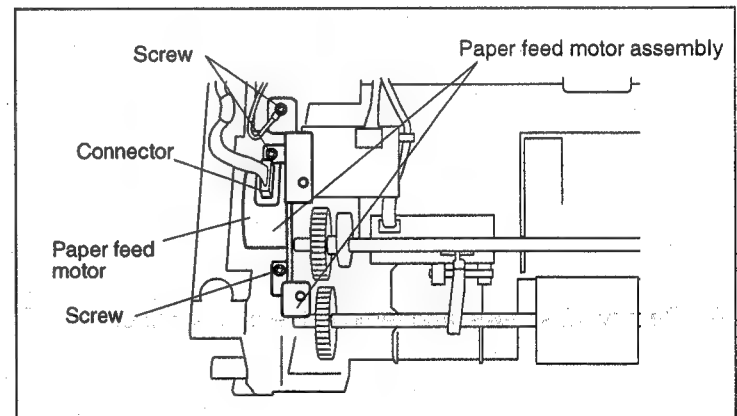

Fig. 7-45
- 6) Disconnect the connector from the paper feed motor shown in Fig. 7-45.